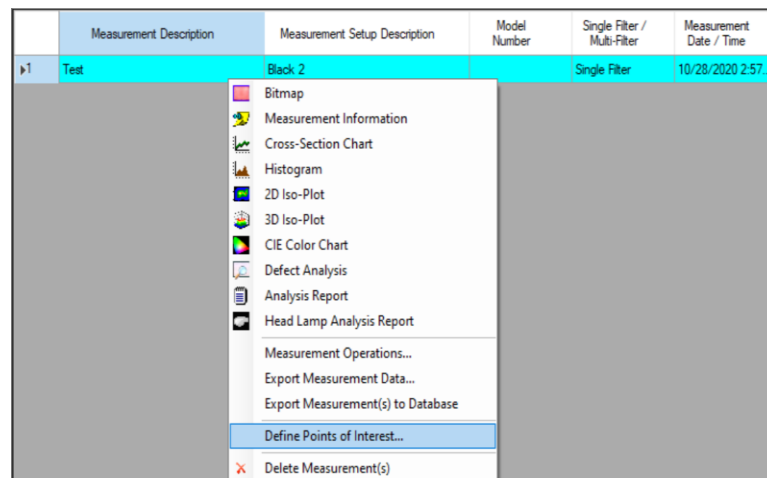

Figure 5 – Define Points of Interest.
3. In the software, right-click on a measurement and select **Define Points of Interest** (shown in Figure 5).